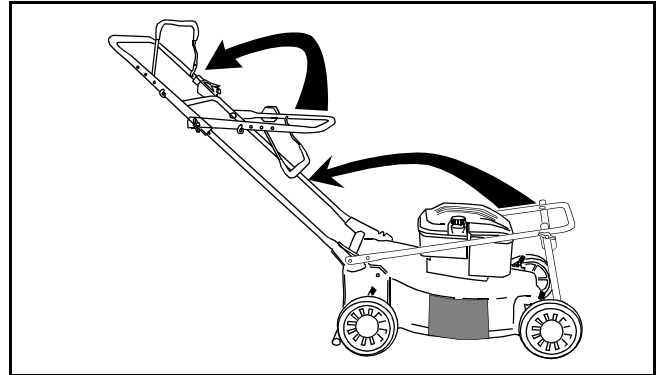

Figure 2
- For shipping purposes, the grass bag was placed on top of the unit. Remove it from the unit and set it out of the way. See Figure 2 .
- Raise the lower handle, as shown in Figure 2 , until it snaps into place.
- Raise the upper handle as shown in Figure 2 .